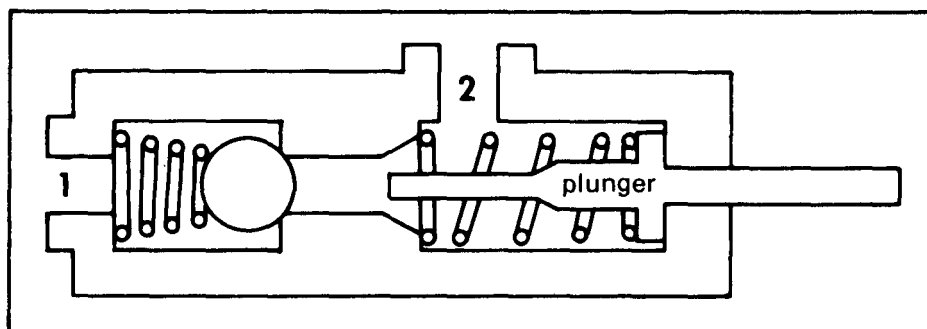

Figure 8-19. Mechanically actuated sequence valve (closed).
**Mechanically Actuated Sequence Valve.** This valve is commonly used in Army aircraft. It consists of a housing with two ports, a ball valving device, two springs, a plunger that extends through one end of the housing, and the necessary seals to prevent leakage. In Figure 8-19, the input pressure line is connected to port 1. The unit operated by the fluid